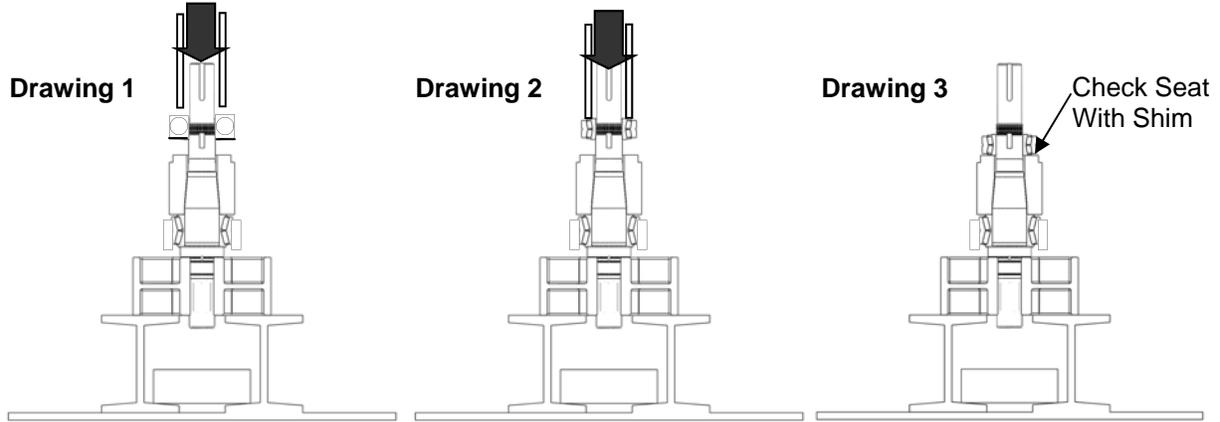

Figure 50: Pressing Rear Bearing onto Shaft
2) For pump models with tapered roller bearings, apply a light coat of lubricant on the shaft. Open the new rear bearing assembly and do not interchange any parts. Place the rear bearing over the shaft above the bearing spacer (Figure 50, Drawing 2). Reference Table 5 for the required force (in tons) needed to press the bearing onto the shaft. Using a sleeve that rests on the inner cone of the bearing and rides over the shaft, press the bearing on until it seats against the spacer.
Make sure the bearing is rested on the bearing spacer using a shim (Figure 50, Drawing 3).